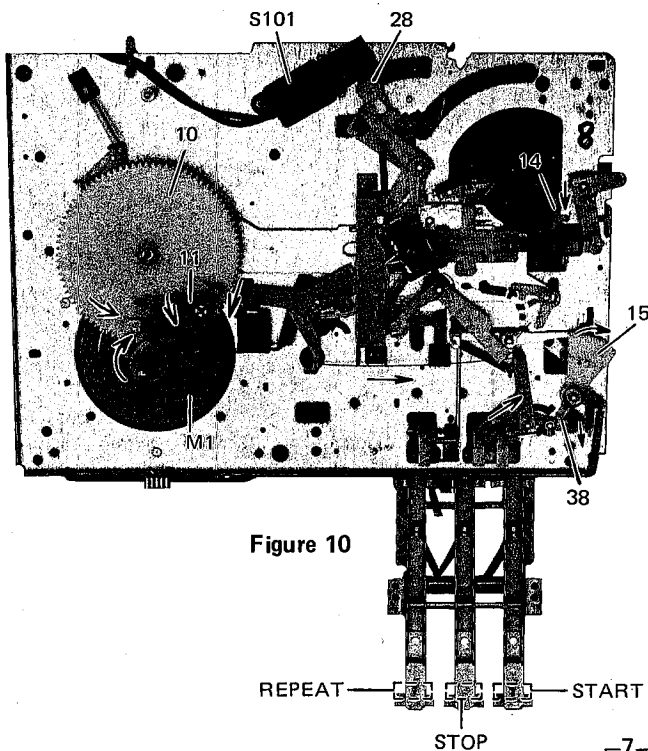

Figure 10
- (1) When the START button is pushed, Click Stopper (38) releases Repeat Cam (15) to swing right to slide down Lead-in Slider (14) and to turn the Lever (28) to left. Micro Switch (S101) turns on DC Motor (M1).
- (2) Pushing of the START Button pulls Spring for Relay-cut Lever to push out Auto Clutch (11) and turns Main Gear (10) by the torque of DC Motor (M1). (Figure 10)